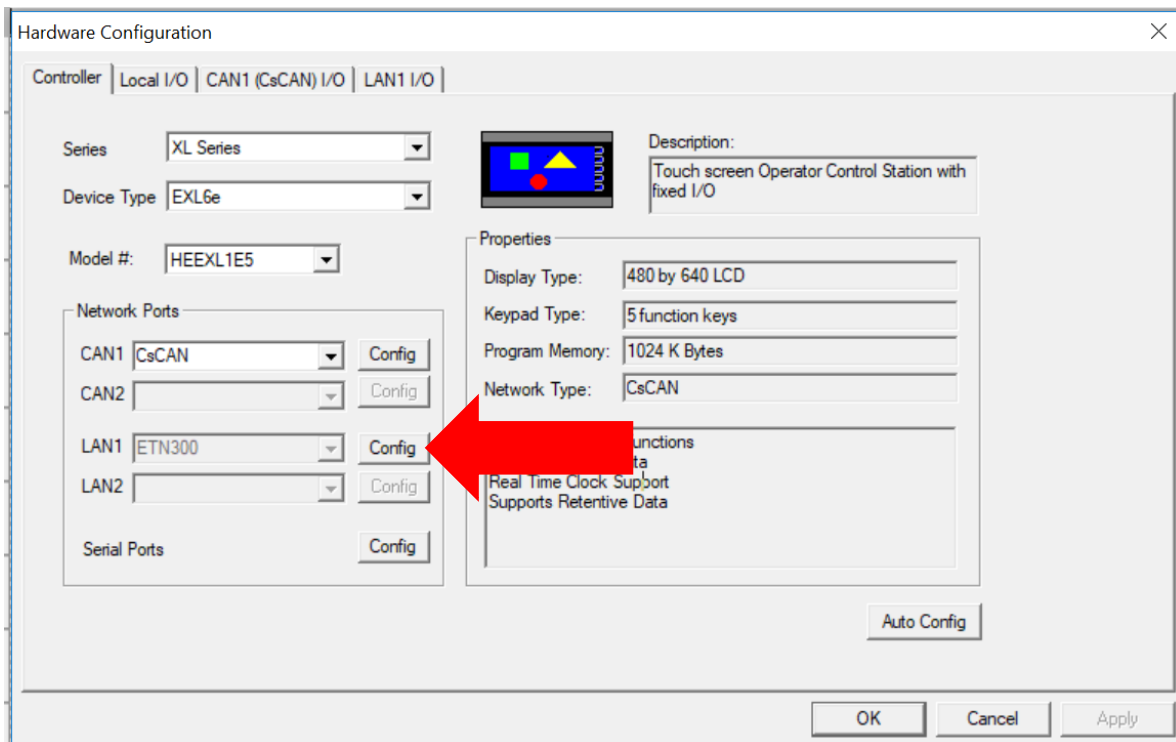

Figure 12.1 - Hardware Configuration Dialog
1. On the main Cscape screen, select the **Controller** → **Hardware Configuration** sub-menu to open the Hardware Configuration dialog (Figure 12.1).